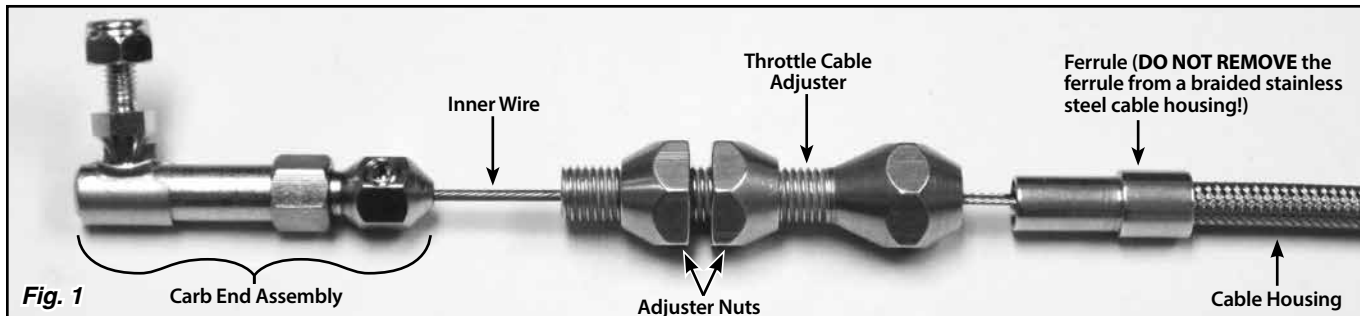

Fig. 1
Step 3: Remove the carb end assembly and throttle cable adjuster from the engine end of the new Lokar Throttle Cable. **DO NOT REMOVE** the ferrule if the cable housing is braided stainless steel! Pull the inner wire out of the cable housing. **Fig. 1**